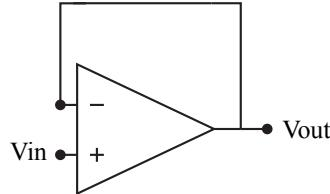

Figure 5.3: A non-inverting amplifier configured as a unity gain buffer.
There is also a special case of the non-inverting amplifier where it is connected as a voltage follower or unity gain amplifier as shown in Figure 5.3.
4. Using the voltage follower configuration in Figure 5.3, run a DC operating point simulation (.op) and determine the V_{out} when V_{in} is zero volts; effectively calculating the offset voltage, table the value.
5. With the same voltage follower configuration, Figure 5.3, set V_{in} to a 1 V amplitude pulse. Vinitial(V): 0, Von(V): 1, Tdelay(s): 0.5m, Ton(s): 10s, Ncycle: 100. Leave any remaining variables blank. Run a transient analysis with a stop
1. Using the voltage follower, Figure 5.3, input a 0 V DC voltage from the Wavegen and record the offset voltage. Choose an appropriate voltage scale, the voltage is on the order of mV. Save a screenshot of the waveform scope.
2. Using the voltage follower again, Figure 5.3, input a 0.5 V amplitude square wave with a 0.5 V offset from the Wavegen. Set the appropriate trigger and determine the slew rate in V/us. Save a screenshot of the waveform scope.